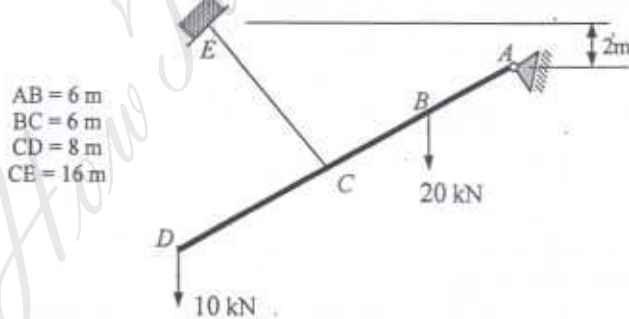

Figure 2
Q.2. In the structure shown in Figure 2, member ABCD is a rigid member pinned to the wall at A, and supported by steel cable CE of 25 mm diameter. The inclinations of cable CE and bar ABCD are 30° and 37° respectively from horizontal. Determine the axial stress, the deformation and the strain in member CE. Also find the movement of point D. (Young's Modulus for steel = 210 GPa)